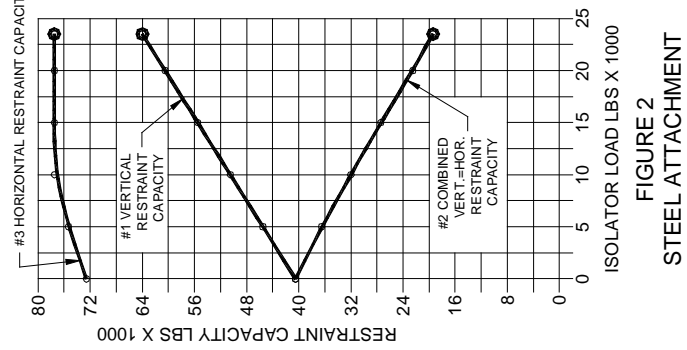
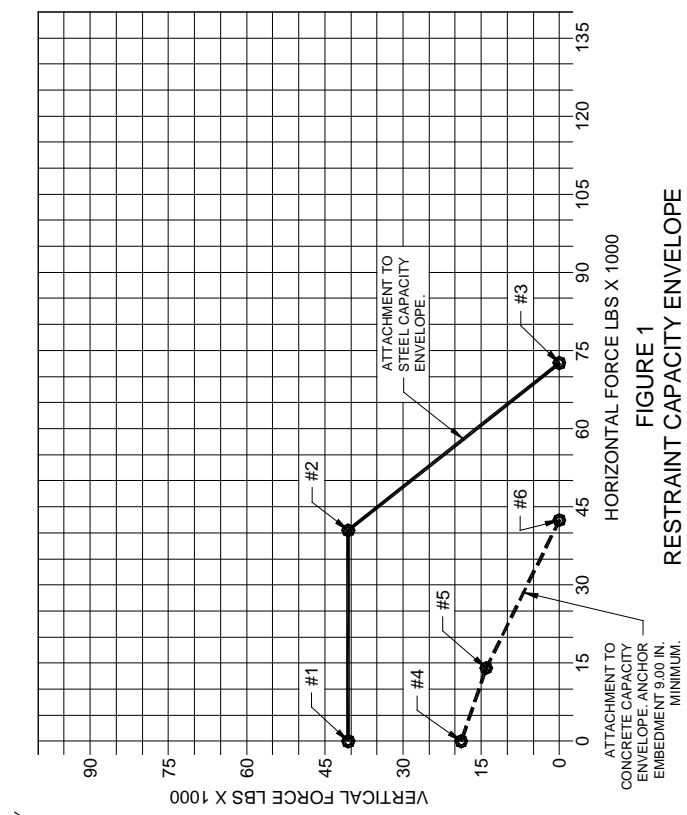
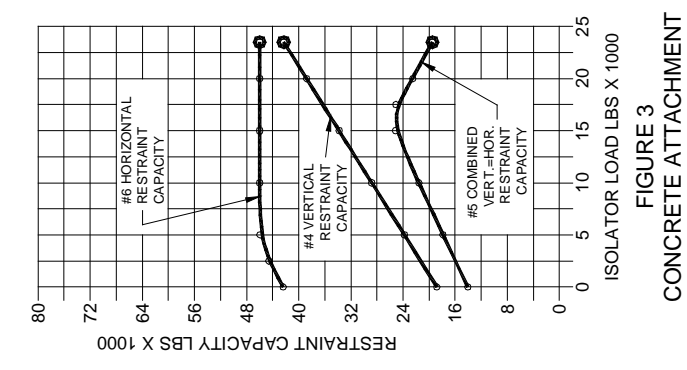

FIGURE 2
FIGURE 1
FIGURE 3
2.) DETERMINE WHETHER THE ATTACHMENT IS TO BE TO STEEL, SELECT FIGURE 2, OR CONCRETE, SELECT FIGURE 3.
3.) THE VERTICAL RESTRAINT CAPACITY @ THE LOAD DETERMINED IN STEP 1 IS READ FROM CURVE #1 (FIG. 2) OR CURVE #4 (FIG. 3) AND PLOTTED ON THE VERTICAL AXIS OF FIGURE 1.
4.) THE HORIZONTAL RESTRAINT CAPACITY @ THE LOAD DETERMINED IN STEP 1 IS READ FROM CURVE #3 (FIG. 2) OR CURVE #6 (FIG. 3) AND PLOTTED ON THE HORIZONTAL AXIS OF FIGURE 1.
5.) THE COMBINED RESTRAINT CAPACITY IS THE POINT WHERE VERTICAL & HORIZONTAL CAPACITIES ARE EQUAL. THE COMBINED RESTRAINT CAPACITY @ THE LOAD DETERMINED IN STEP 1 IS READ FROM CURVE #2 (FIG. 2) OR CURVE #5 (FIG. 3). DRAW A HORIZONTAL LINE FROM THIS VALUE ON THE VERTICAL AXIS, AND A VERTICAL LINE FROM THIS VALUE ON THE HORIZONTAL AXIS. THE INTERSECTION POINT IS THE COMBINED CAPACITY POINT FOR THE GIVEN APPLICATION.